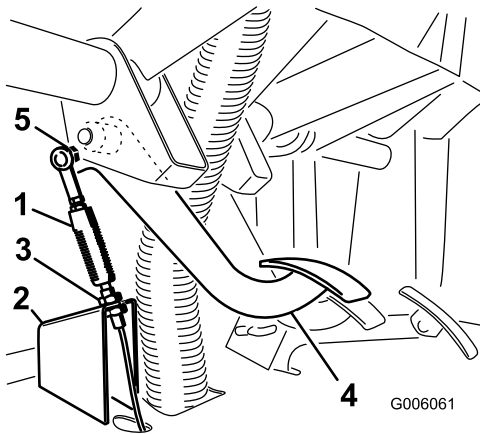

Figure 14
12. Mount the clutch cable ball joint to the clutch pedal with $\frac{1}{4}$ inch lock nut (Figure 14).
13. Position the clutch cable onto the floor bracket (Figure 14).